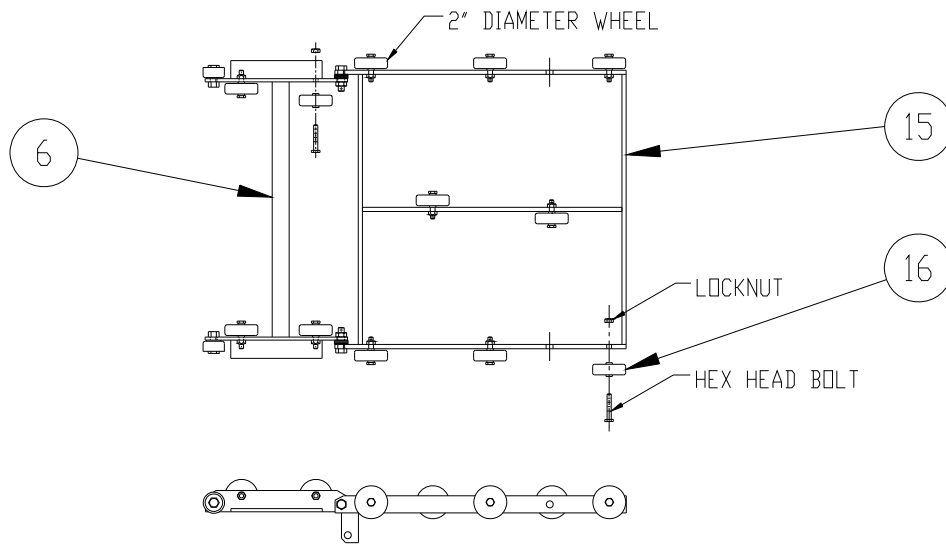

Figure 3-1.
1. Refer to Figure 3-1 (Wheel placement Guide) for correct placement of wheels on platform frame (15) and pivot bracket (6).